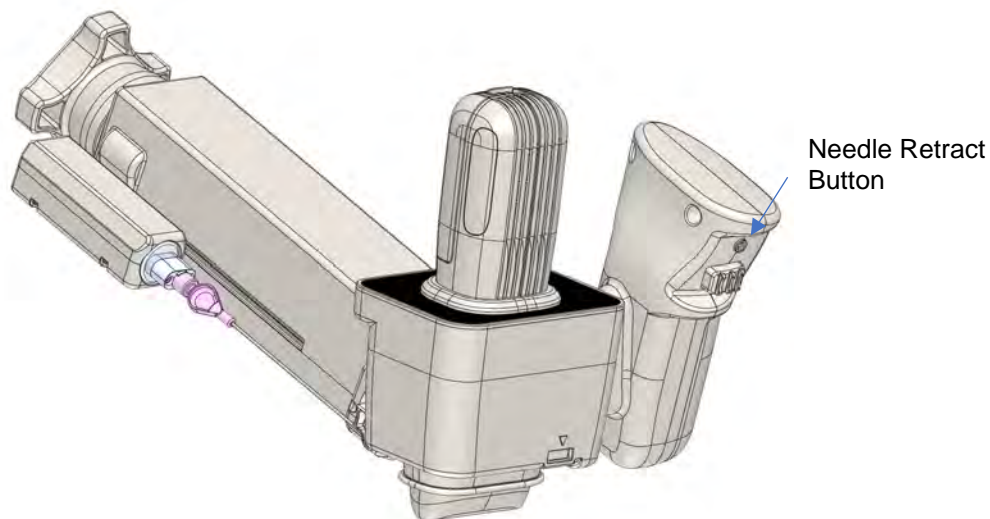

Figure 24. Needle Retract Button.
7. Optionally, press the Needle Retract Button on the CERTA Access Device to reposition the TearDrop Needle to the starting position (Figure 24).